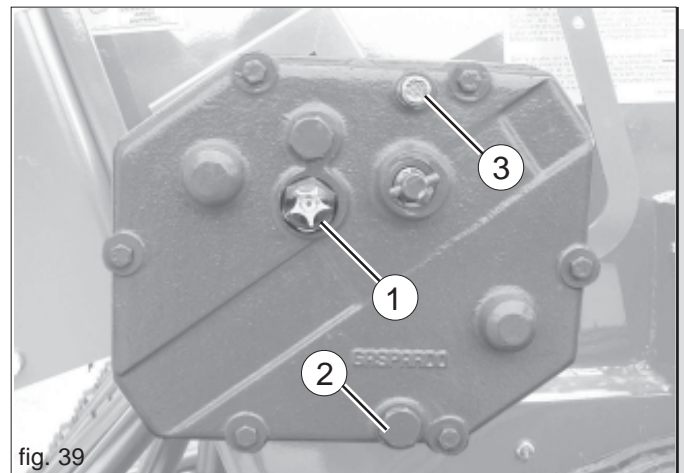

fig. 39
- Check the oil level in the gearbox and top up to level (Fig. 39, «1») whenever necessary using the same type of oil (ACER 22) whenever possible.
- oil drainage plug, 2 Fig. 39;
- oil filling plug, 3 Fig. 39.